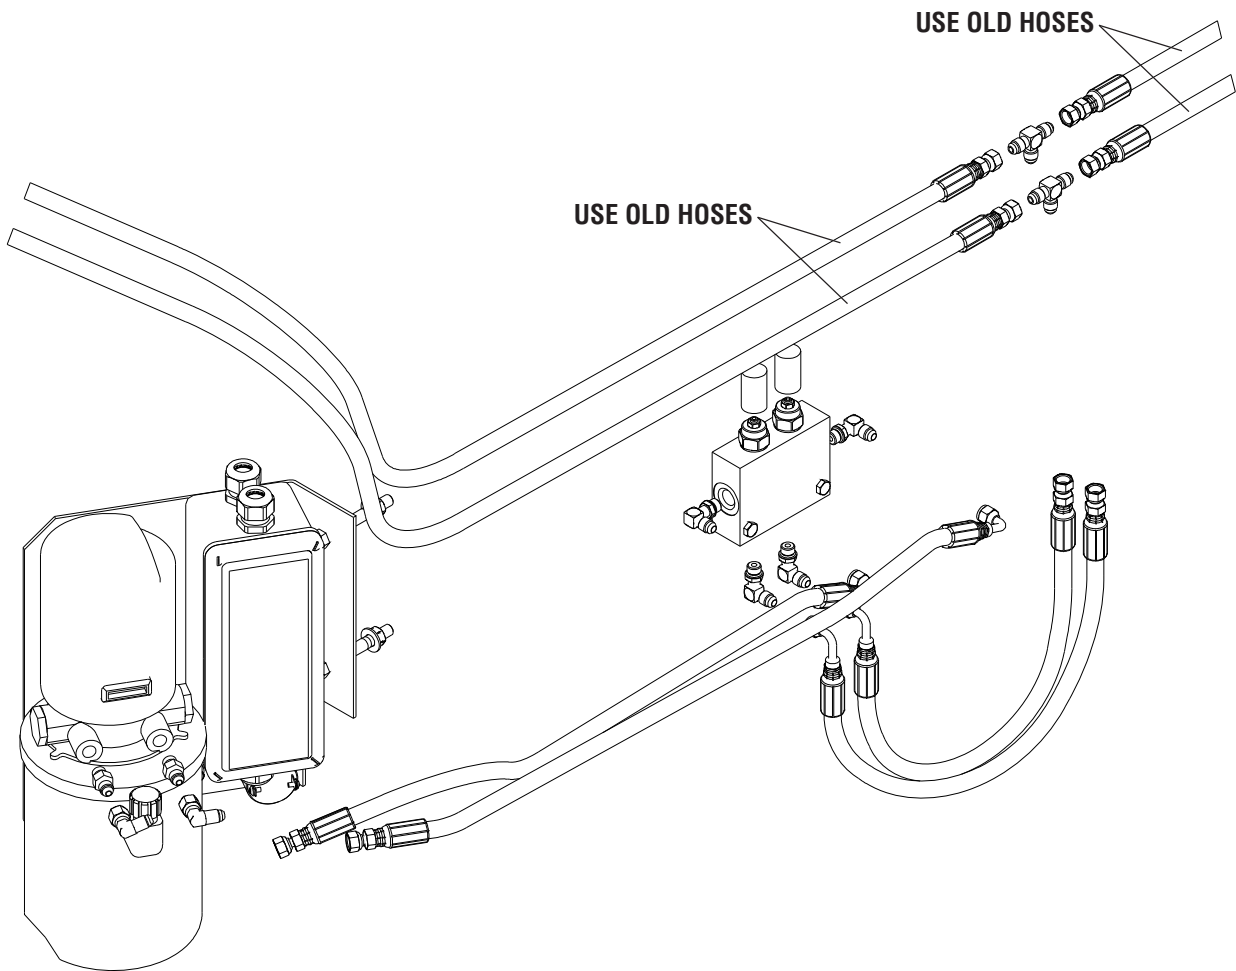

Figure 4
Step 9 - Install hoses as shown in Figure 4.